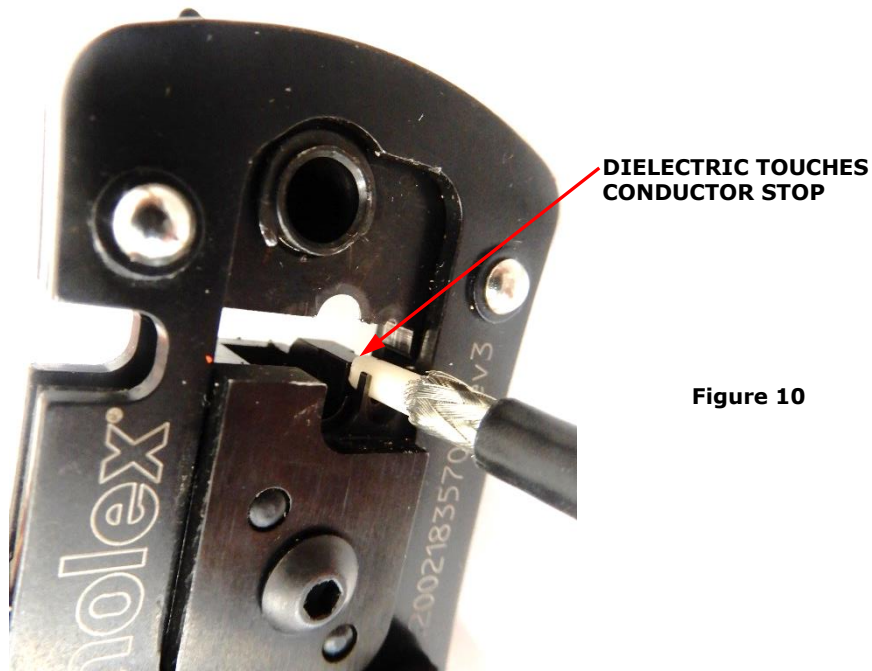

Figure 10
- 3.2 Place the dielectric in the conductor stripping area (right side stripping area) and push it forward until the dielectric stops on the conductor stop. See Figure 10.